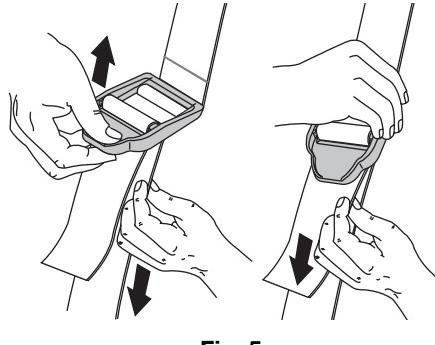

Fig. 5
4. Adjust the length to fit the operator's size. Pull the tab to lengthen, pull the strap to shorten (Fig. 5).